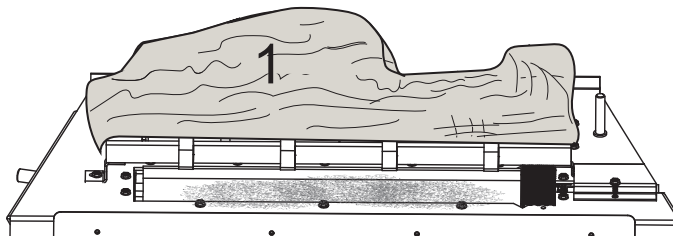

Figure 11 - Log #1 Placement
2. Hold log #1 with the pointed end to the left. Place log #1 behind the grate by positioning the two pin locator holes on the bottom of the log over the pins behind the grate. Push the log down to make sure it rests flat over the metal base. See Figure 11.